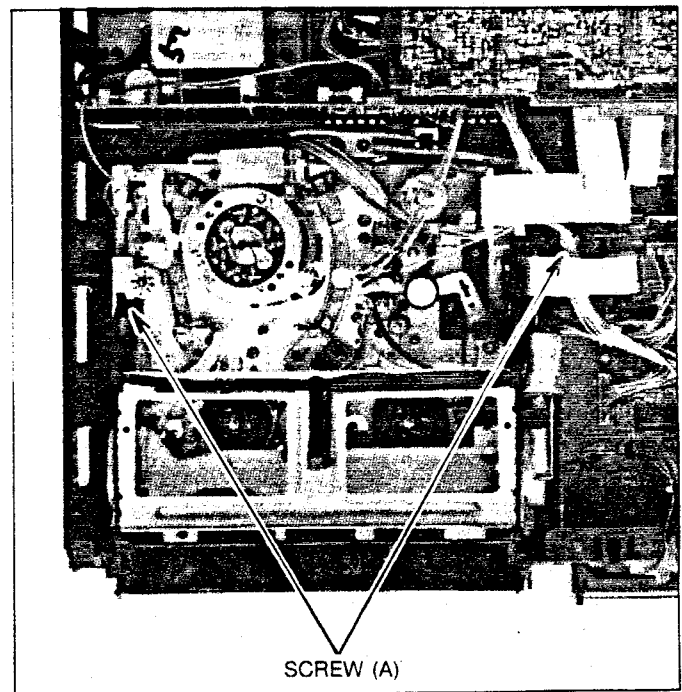

Fig. 45
1. Remove the 2 Screws (A) shown in Fig. 45.